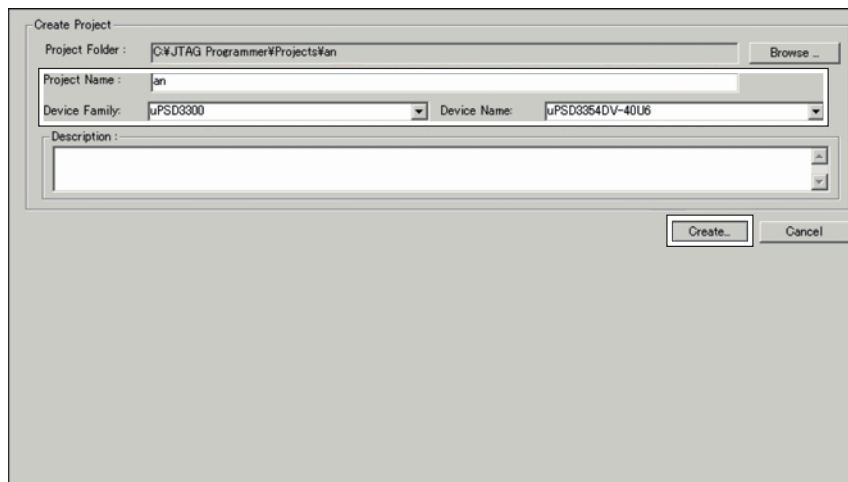

Fig. 2 Create Project screen
- 3) Select new project from the project menu. The following “Create Project” screen appears. (Fig. 2)